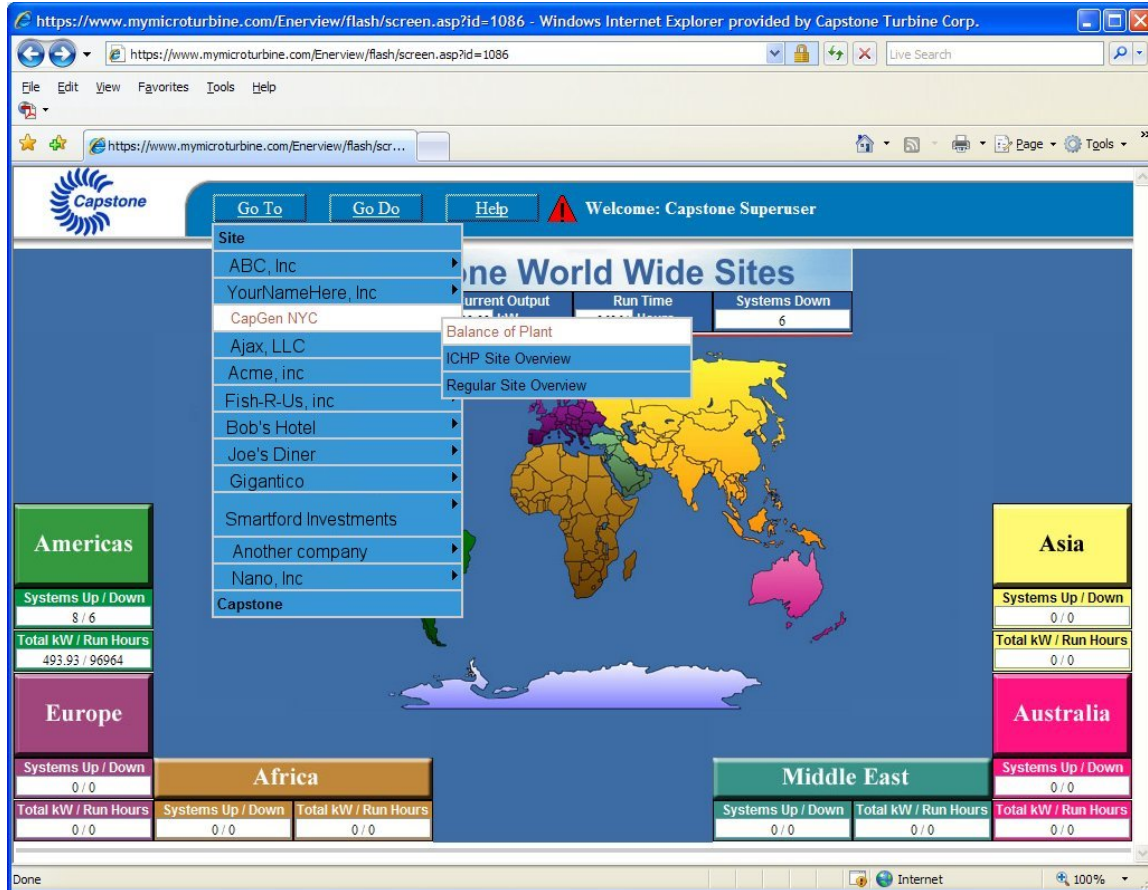

Figure 10. Using the GoTo Menu (Direct Site Access)
2. Use the GoTo menu to jump straight to the desired site (see Figure 10).
For the second option, to quickly navigate to a specific site, the GoTo drop-down menu contains direct links to the site(s) to which the end user has the access rights. Figure 10 shows an example drop-down box, from which the end user can directly select one of his/her sites.